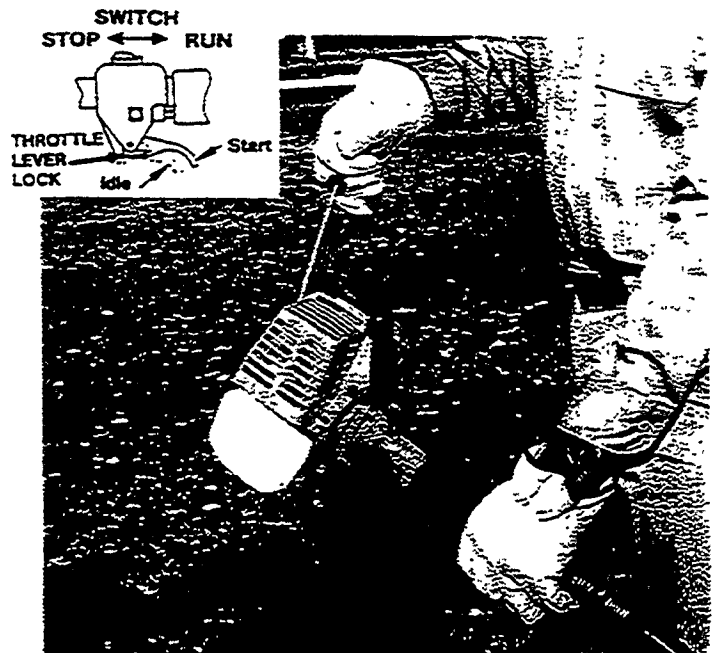

Figure 6
- Lock throttle lever in the start position as shown in (**Figure 6**).
- Pull starter rope slowly, until engine compression is felt (**Figure 6**). Pull the starter in short rapid strokes until engine starts.